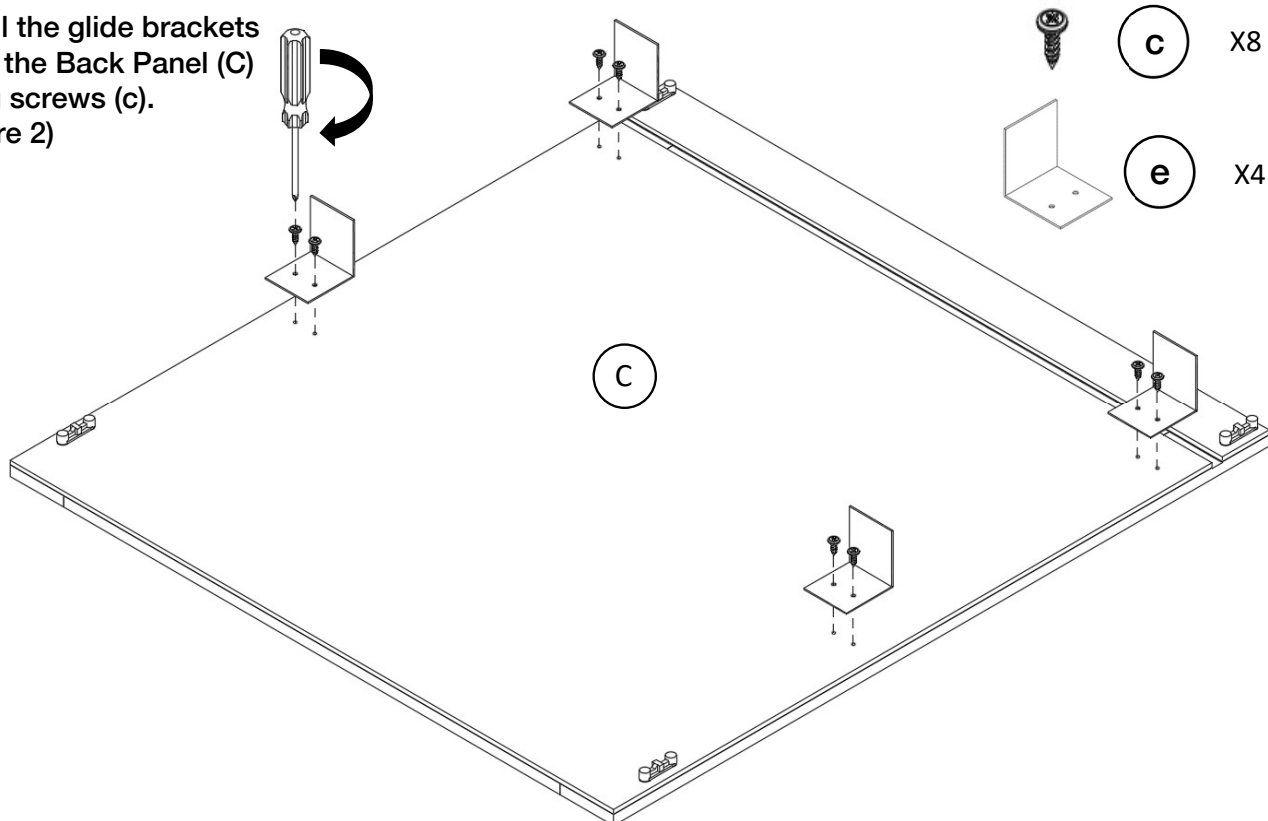

Figure 2
Install the glide brackets (e) to the Back Panel (C) using screws (c). (Figure 2)